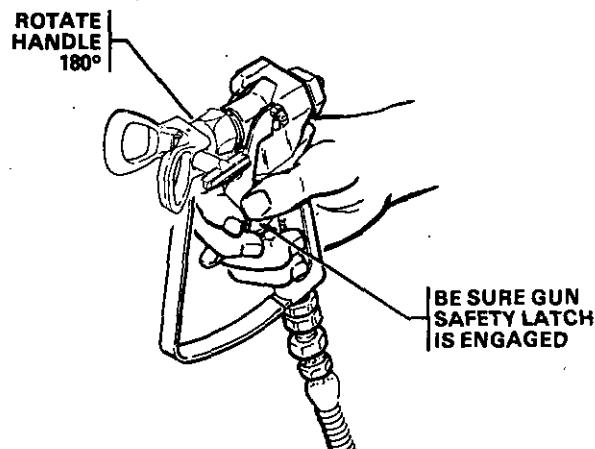

Fig. 6
- b. If the spray tip does clog, release the gun trigger, engage the gun safety latch, and rotate the RAC IV handle 180°. See Fig. 6.